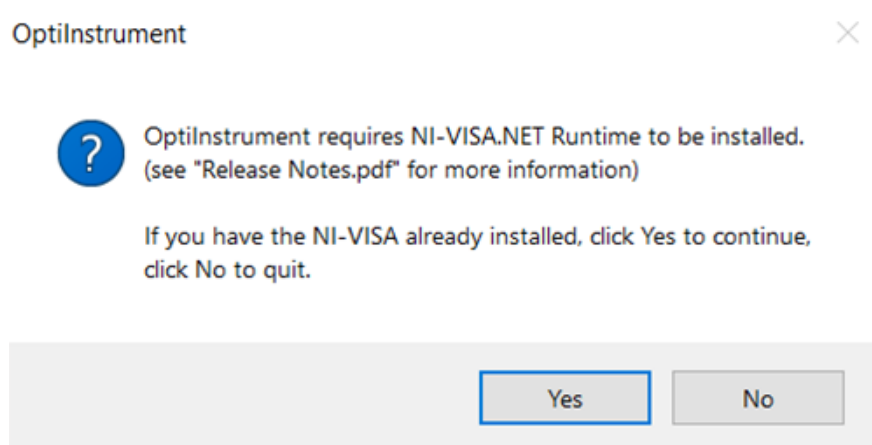
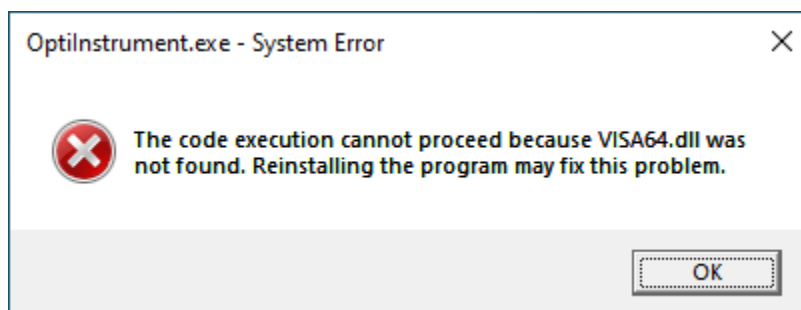

Fig. 1 OptiInstrument installation popup message
Fig. 2 OptiInstrument installation error message when NI-VISA Runtime is not preinstalled
- When starting the installation process of OptiInstrument software, the popup message shown in Fig.1 offers the user a choice to quit the installation process if the NI-VISA.NET Runtime package is not installed on the same computer or continue the installation if the package is installed. However, the error message shown in Fig. 2 appears when users launch OptiInstrument application while **NI-VISA package is not installed**. Users need to install NI-VISA Runtime package, then **run the batch file reactivate_x64.bat as an administrator** to allow launching OptiInstrument software. The file is located at the following location: